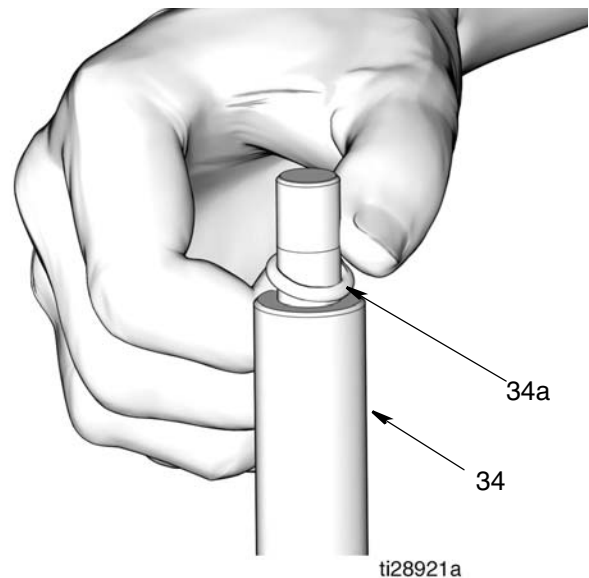

FIG. 24
- Dispose of piston seal (4) and o-ring (34a) and nut (37) according to all regulations for proper disposal.
21. Use a pick to remove o-ring (34a) from piston rod (34) (FIG. 24).